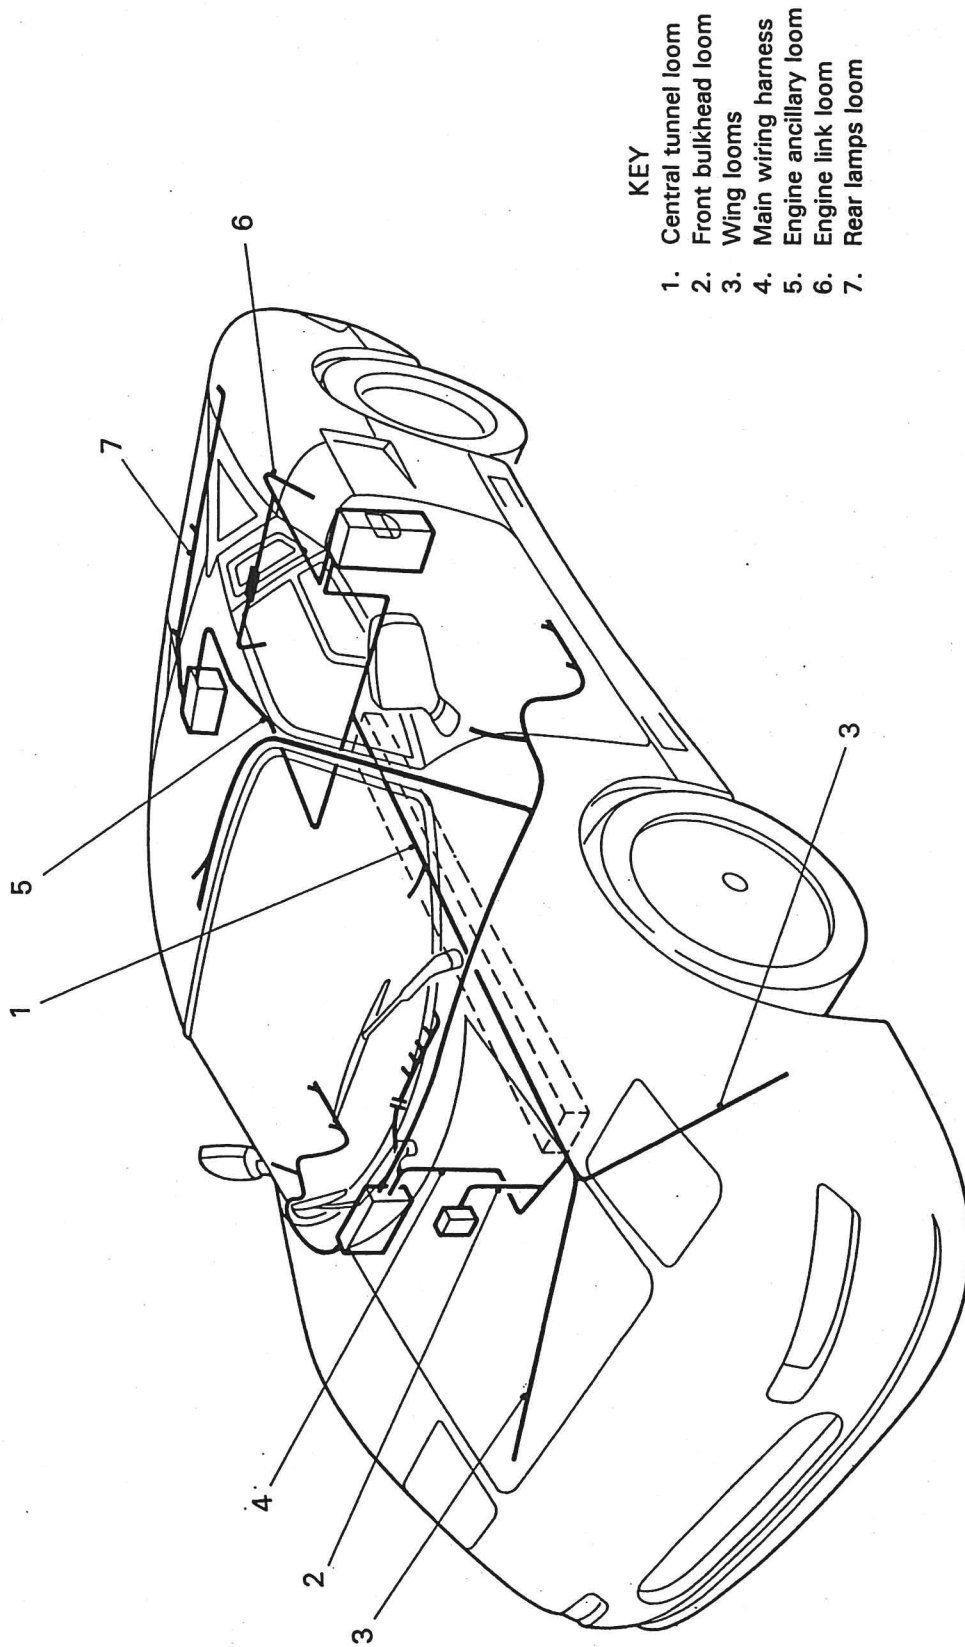

Fig. 5 Location of Electrical Looms
1. Refer to Fig. 5. Remove the loom assembly from the engine.
NOTE. All looms (refer to Fig. 5) are enclosed in Copex tubing and are fixed in position using ties, clips and sometimes Sikoflex. Except for the engine loom all other looms are supplied complete from stores ready to install and connect.